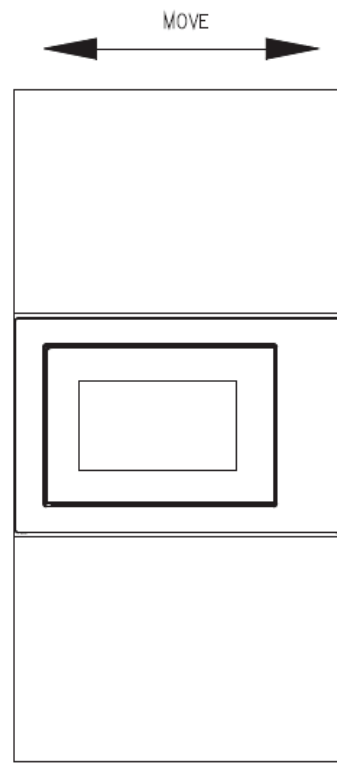

Fig.3
**3- Move the appliance parallel inside the kitchen cabinet in the direction indicated by the arrows in the illustration and keep it centered. (Fig. 3)**